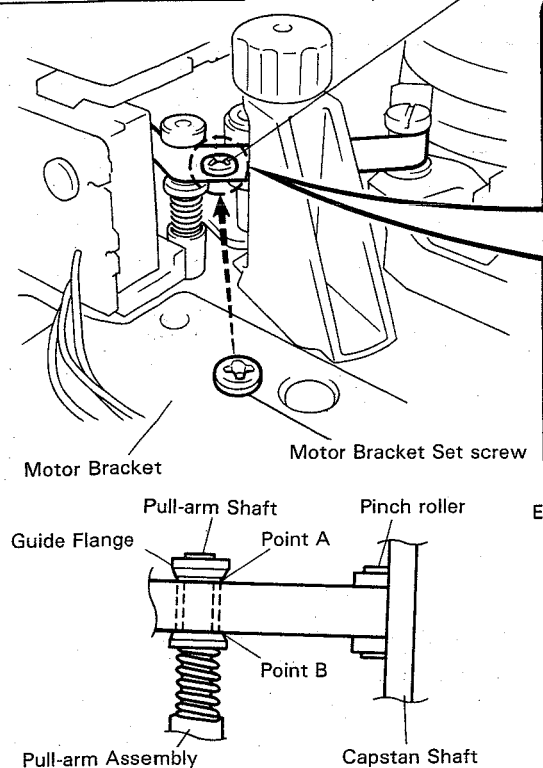

Fig. 3-4
5. Set the REW mode by pressing and holding down the REW/REV key. Confirm that the tape does not curl at Points A and B in Fig. 3-4.